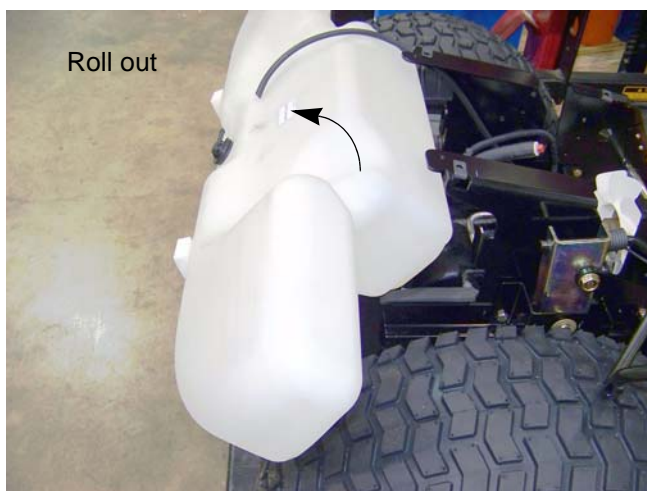

Figure 2.12
16. Roll the fuel tank towards the rear of the tractor until it is free from the tractor. See Figure 2.12.